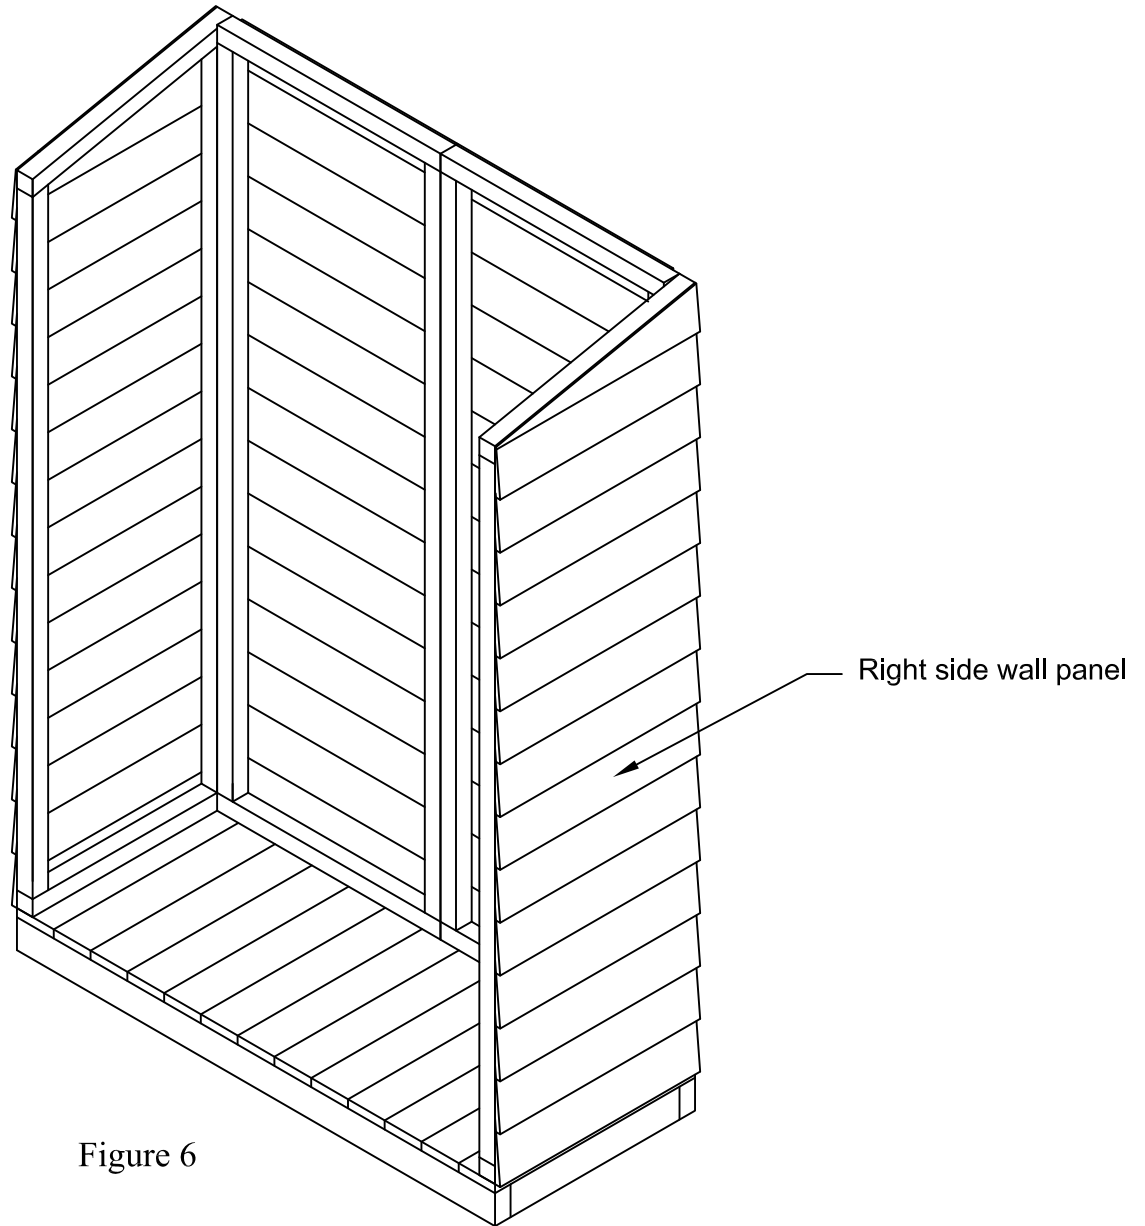

Figure 6
5. Place the right sidewall into its proper position, flush with the rear and front decking. Like the left wall, use 2 - 3" screws to mount it to the floor and 3 - 3" screws to fasten it to the adjacent rear wall at the 2x2 butt joint (see Figure 6).